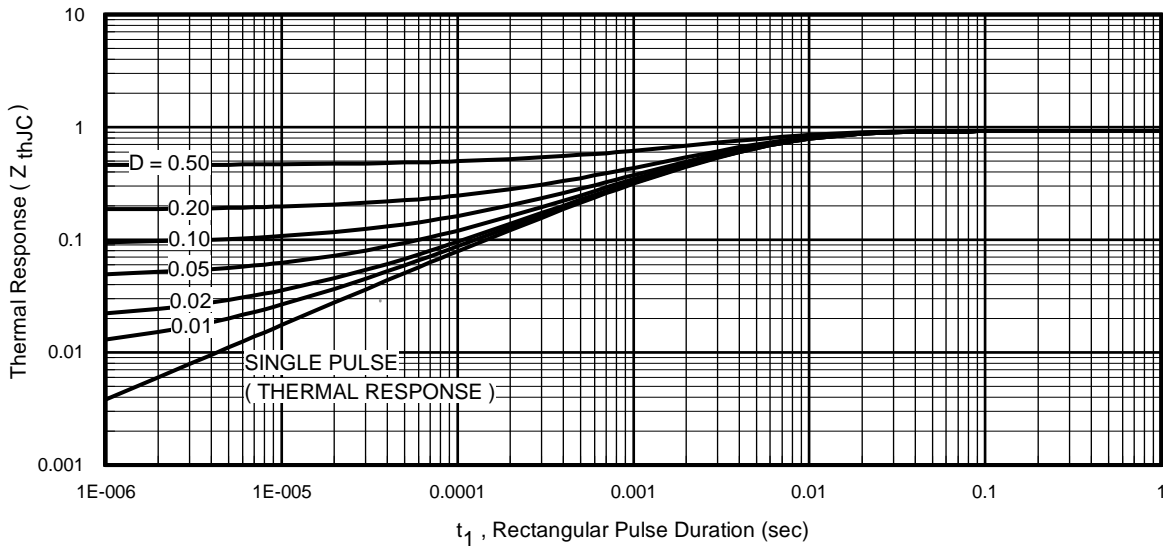

Fig 11. Maximum Effective Transient Thermal Impedance, Junction-to-Case
- ① Repetitive rating; pulse width limited by max. junction temperature. (See fig. 11).
- ② Limited by T_{Jmax} , starting $T_J = 25^\circ\text{C}$, $L = 0.27mH$, $R_G = 25\Omega$, $I_{AS} = 35A$, $V_{GS} = 10V$. Part not recommended for use above this value.
- ③ $I_{SD} \leq 35A$, $di/dt \leq 380A/\mu s$, $V_{DD} \leq V_{(BR)DSS}$, $T_J \leq 175^\circ\text{C}$.
- ④ Pulse width $\leq 1.0ms$; duty cycle $\leq 2\%$.
- ⑤ $C_{oss\ eff.}$ is a fixed capacitance that gives the same charging time as C_{oss} while V_{DS} is rising from 0 to 80% V_{DSS} .
$Z_{thJC}(D, t_{av})$ = Transient thermal resistance, see figure 11)